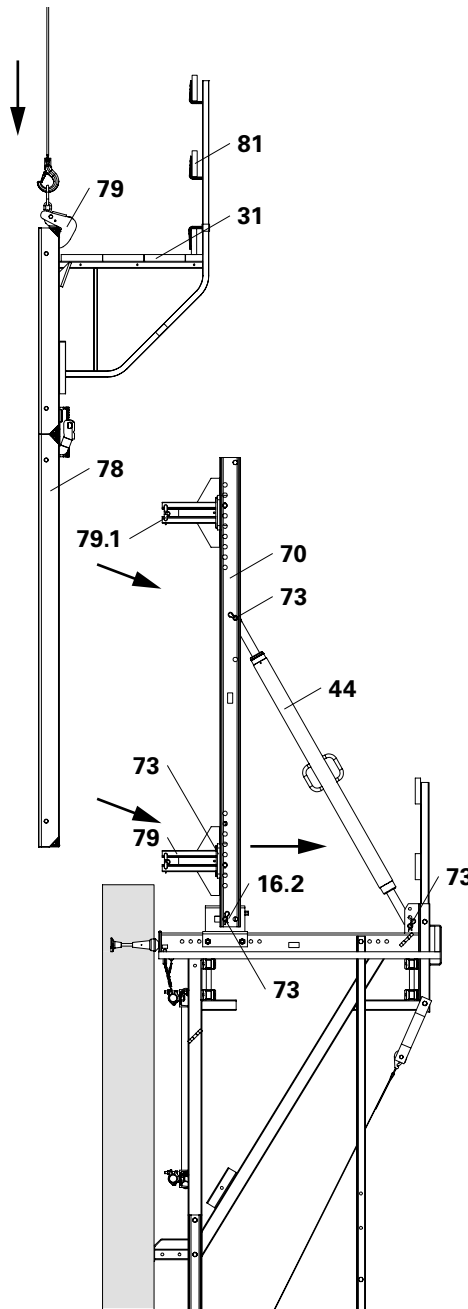

Fig. B2.19
2. Fix Connectors TRIO-CB (79) to the Strongback CB (70) using Bolts \varnothing 25x180 (73) and Cotter Pins 4/1.
3. Fix Strongback CB to the Adjusting Unit CB by means of Bolts \varnothing 25x180 (73) and Cotter Pins 4/1. \varnothing 25x180 (73) and Cotter Pins 4/1.
4. Fix Adjustable Brace CB 164-224 (44) to the bracket and Strongback CB using Bolts \varnothing 25x180 (73) and Cotter Pins 4/1.
5. Brace Strongbacks laterally. (Fig. B2.19)